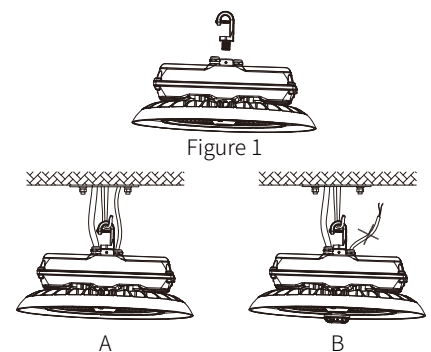

Figure 2
2. Hang the fixture on the ceiling hook or chain. (Figure2)